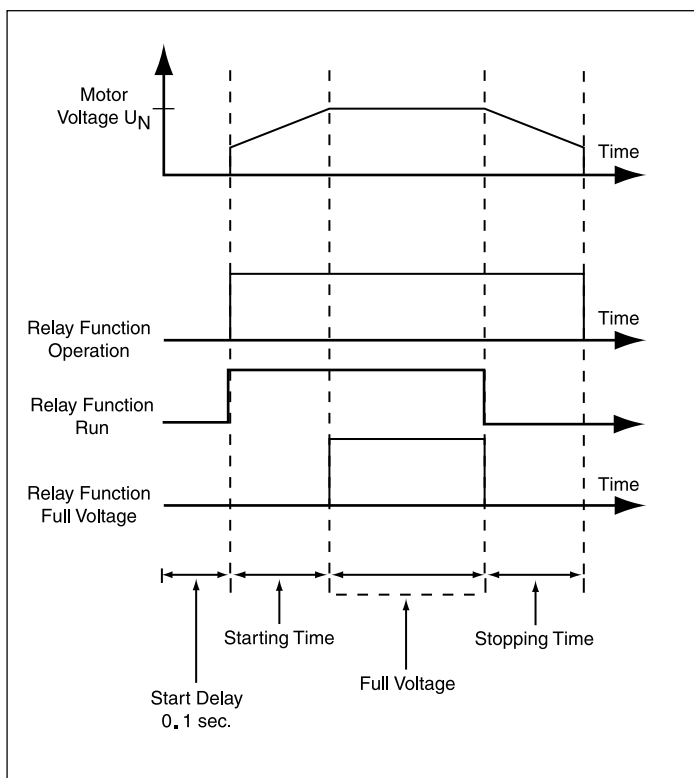

Fig. 3. Relay logic sequence.
The device is started and stopped as shown in Fig. 3.
- Relay K1 is used for indication of operation. K1 is activated by the external contact, terminals 12–13, or a start command from keypad (see Fig. 3). It de-energizes upon completion of the stop ramp.